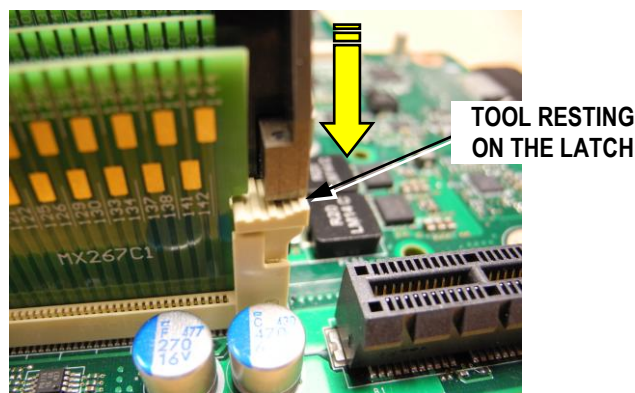

Figure 4
- Gently push the extraction tool down until the tool rests on the socket latches. See Figure 4.